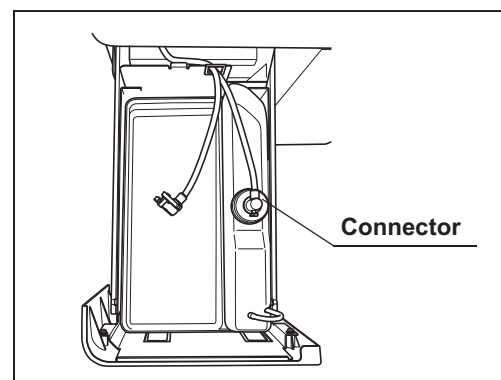

Figure 4.123
- 8 Turn the connector to orientate the tube as shown in Figure 4.123. Confirm that the tube is not bent.